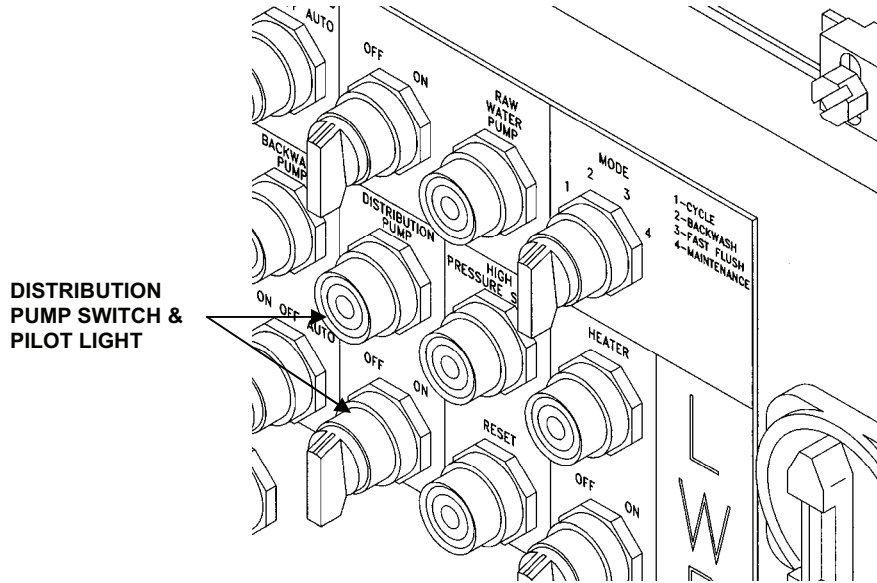

Figure 2. Control Module.
4. Place the DISTRIBUTION PUMP switch on the control module in the ON position. See Figure 2.
8. Place the DISTRIBUTION PUMP switch on the control module in the OFF position. See Figure 2.